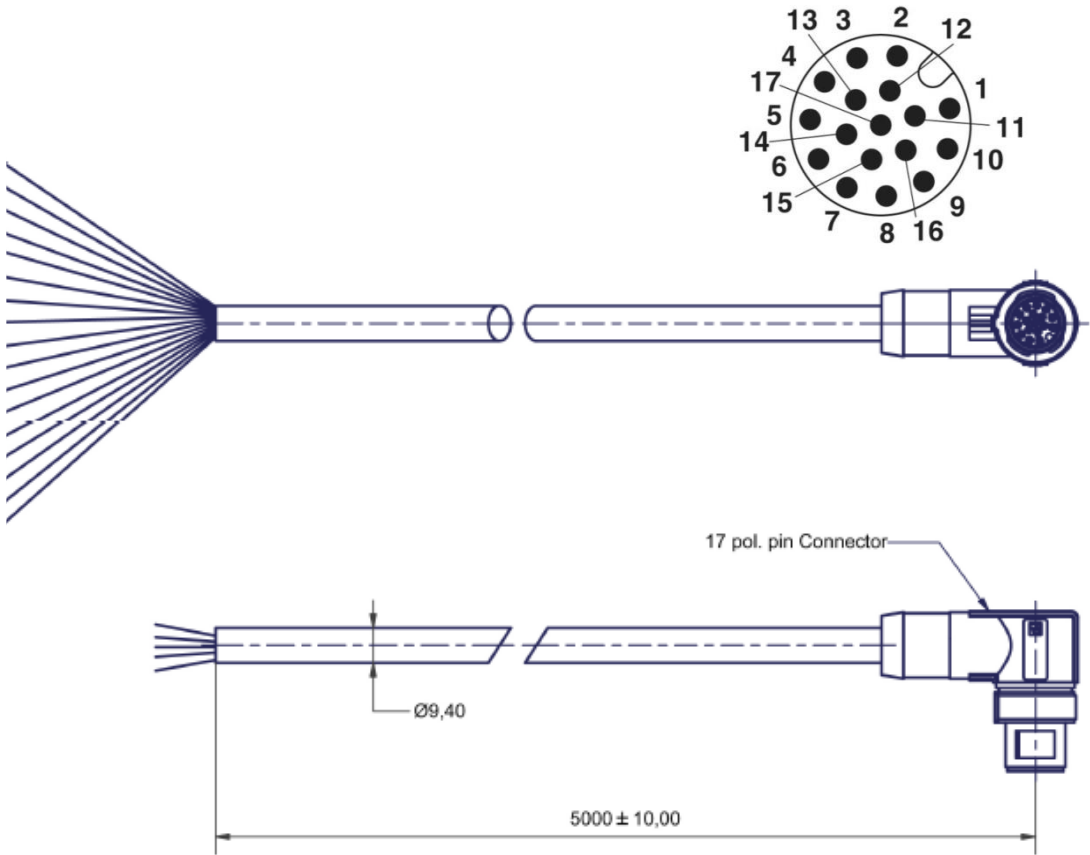

Figure 18: Multifunction cable
- Figure 18: Multifunction cable 40